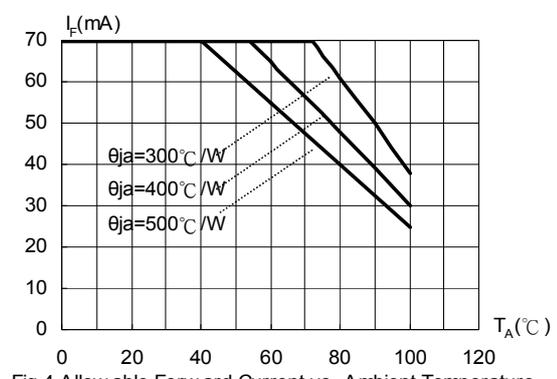

Fig.4 Allowable Forward Current vs. Ambient Temperature
- Note: 1. Design of heat dissipation should be considered. For the allowable operating current at different operating temperature, please refer to fig 4. page 4.